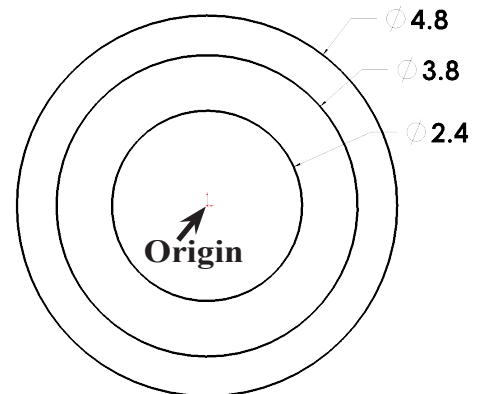

Fig. 2
Step 3. Click **Circle**  (S) on the Sketch toolbar.
Step 4. Draw **three circles** starting at the Origin , **Fig. 2**.
Step 5. Click **Fully Defined Sketch**  (D) on the Sketch toolbar and OK  in the Property Manager.
Step 6. Dimension the circles as shown in **Fig. 2**.
Step 7. Click **Zoom to Fit**  (F) on the View toolbar.